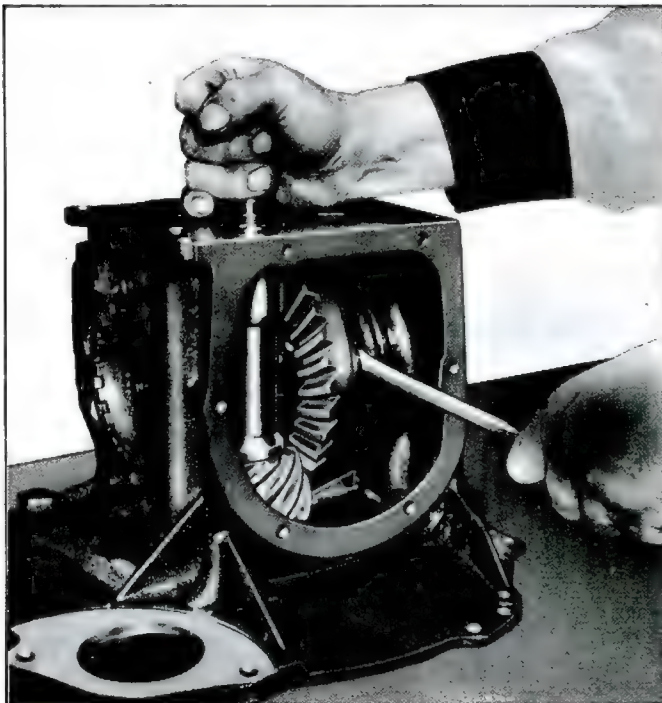

Fig. 50—Developing Contact Pattern
3. While firmly holding the pinion with a rag to form a friction brake, turn the ring gear back and forth with a wrench (fig. 50) on the ring gear mounting bolts until a definite contact pattern is formed on the pinion.